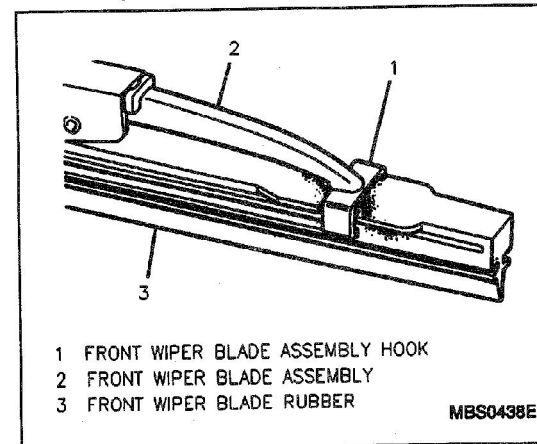

Figure 4—Wiper Blade Rubber Locked in Place
- Slide wiper blade rubber through wiper blade assembly hooks until it is locked into place (Figure 4).